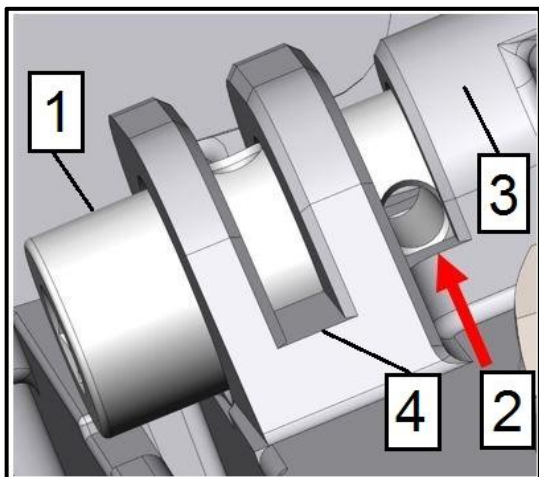

Fig. 44
4. Turn the screw (pos. 1, Fig. 44) 90 degrees counterclockwise. Match the adjacent hole in the adjusting screw (relative to item 3) with the adjacent hole in the housing (relative to item 3) (pos.3, Figure 44). This will reduce the tension of the chain and prevent it from stretching too early. According to paragraph 3, the first hole in motion and the first groove in motion.